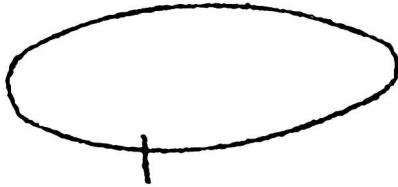

Fig. 22a
g) Thyristor elements (Fig. 22a), waveform characteristics: fixed position, each element